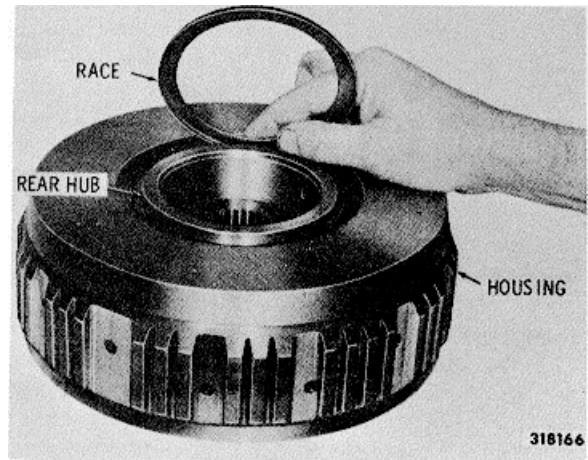
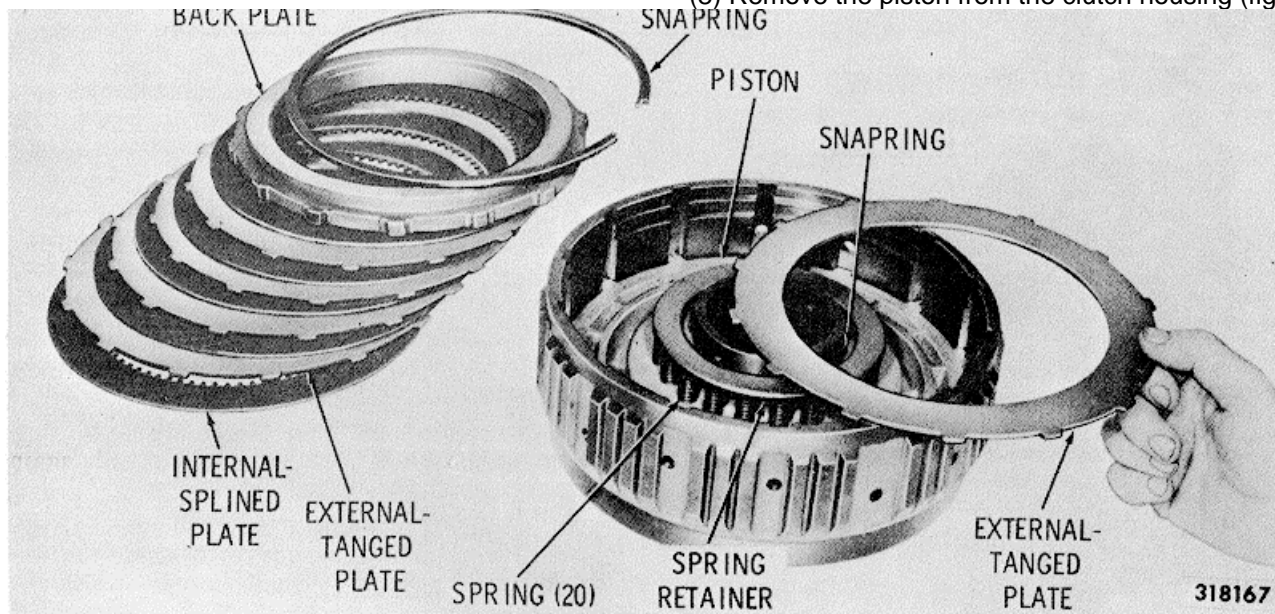

Fig. 6-39 Removing (or installing) fourth clutch rear bearing race
Fig. 6-40 Removing (or installing) fourth clutch plates
(2) Remove the bearing race from the rear hub of the fourth-clutch housing (fig. 6-39).
(3) Place the fourth-clutch assembly, snapping up, on the work table.
(4) Remove the large snapping and the back plate (fig. 6-40).
(4) A clutch plate running clearance check is essential before completing the assembly. Items (5) through (7), below, explain the procedure. Items (8) through (12), below, complete the rebuild of the assembly.
(5) Beginning with an external-tangled plate, alternately install five external-tangled plates and five internal-splined plates into the fourth-clutch housing (fig. 6-40).
(8) Install 20 piston release springs, one each on the 20 cast bosses on the fourth clutch piston (fig. 6-40).
(9) Install the spring retainer, recessed side (outer lip) down, on the 20 piston return springs (fig. 6-40).
(11) Grease (with oil-soluble grease) and install the bearing race onto the rear hub of the fourth-clutch housing (fig. 6-39).